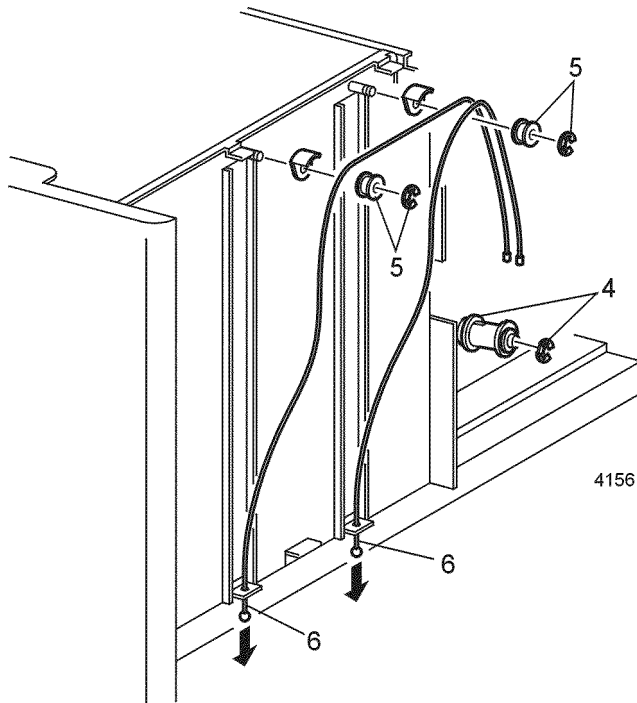

Figure 1 Right Tray Wires
4. Remove the E-ring that secures the Cable Pulley (Figure 1). Remove the pulley.
5. Remove the E-rings and pulleys from the two shafts on the tray assembly (Figure 1).
6. Remove the wires down through the holes in the tray assembly (Figure 1).
1. Ensure the black plastic wire guides are at the top of the pulleys (Figure 1).